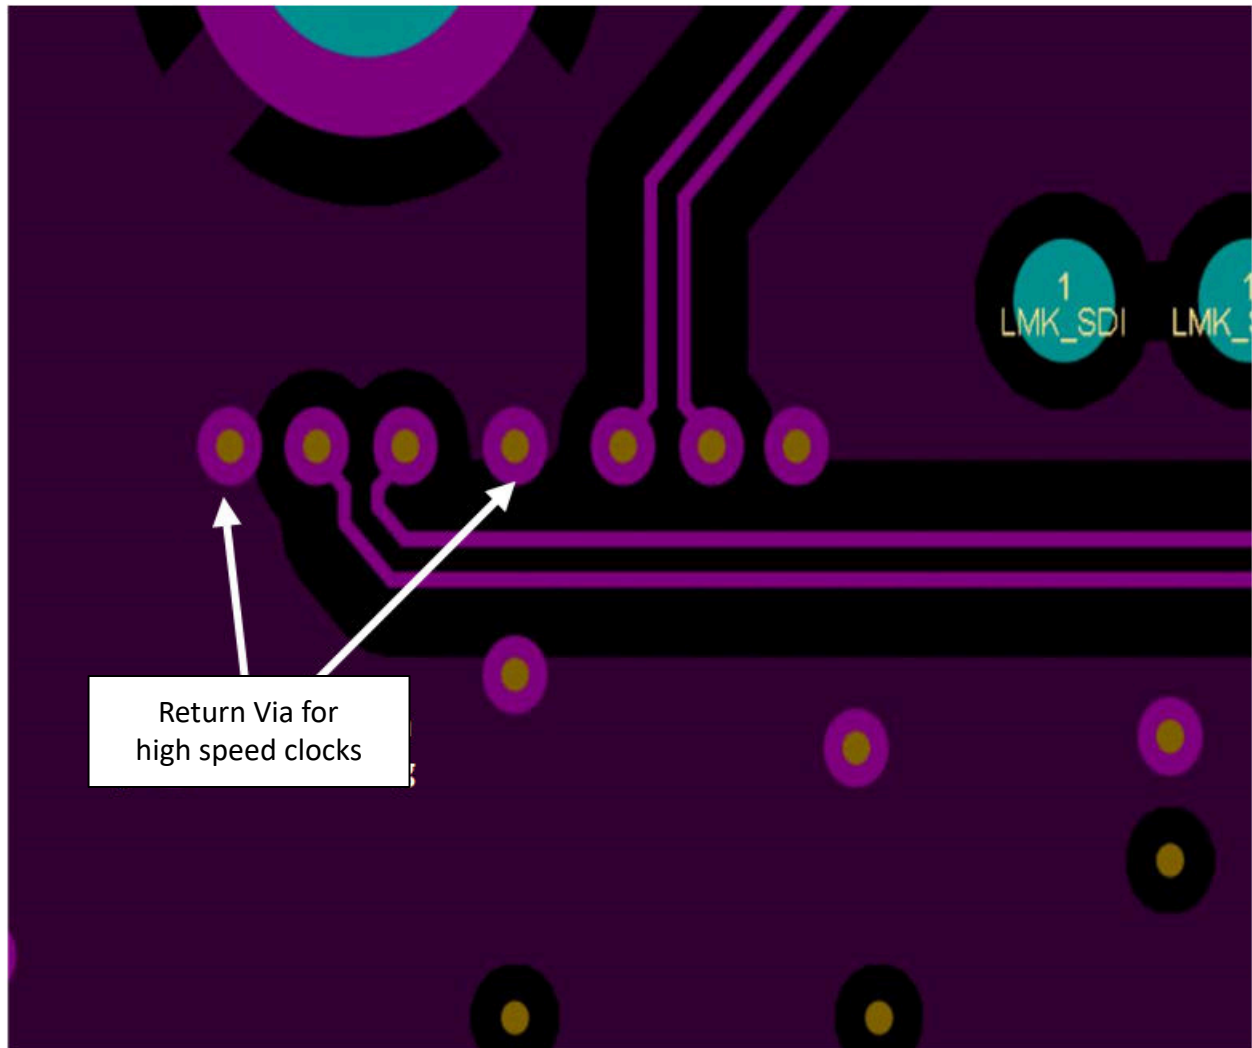

Figure 8-26. Return Vias for High Speed Clock
8. When high-speed signals must transition to another layer using vias, transition as far through the board as possible (top to bottom is best case) to minimize via stubs on top or bottom of the vias. If layer selection is not flexible, use back-drilled or buried, blind vias to eliminate stubs. Always place two ground vias (“return vias”) close to critical high-speed signal trace via when transitioning between layers to provide a nearby ground return path. See Figure 8-26 and Figure 8-27 as examples.